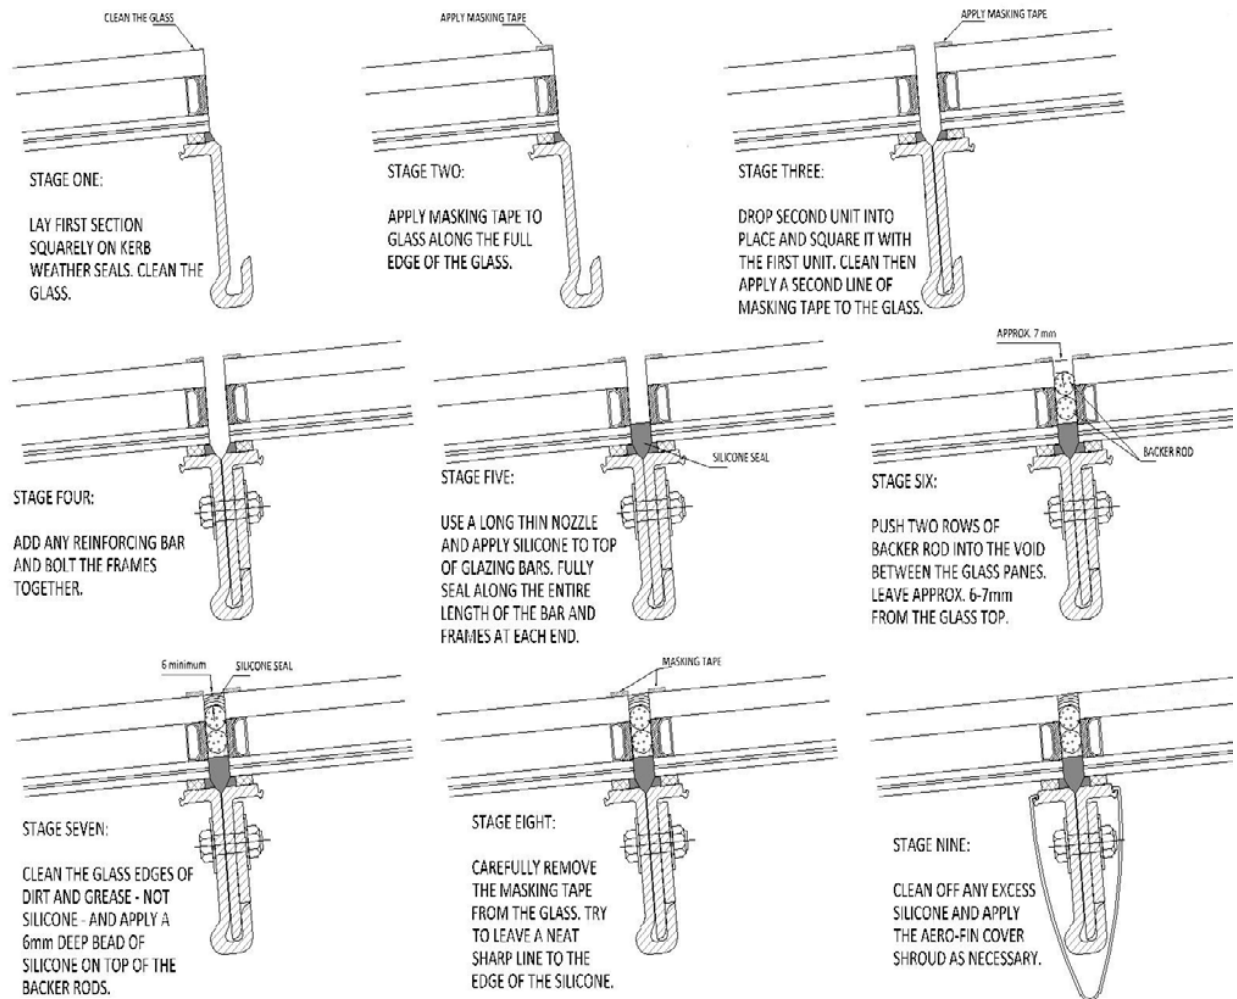

Fig 5 - Glazing Bar Installation
- ▶ 11 Clean the glass. Use masking tape to protect the glass either side of the joint between the glass panes, making sure the tape is fully on the glass edge and not overlapping. See figure 5.